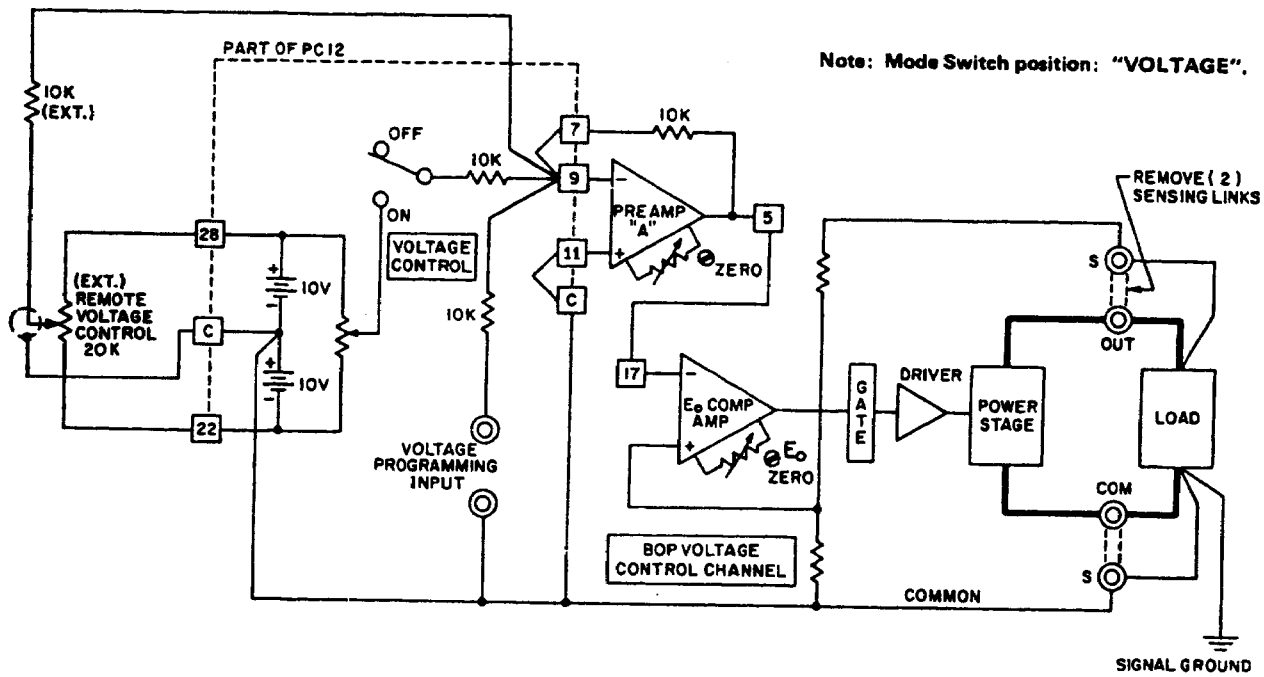

FIG. 3-4 REMOTE POTENTIOMETER CONTROL OF THE BOP D-C OUTPUT VOLTAGE
- 3-11 REMOTE D-C OUTPUT VOLTAGE CONTROL BY RESISTANCE.** As seen in FIG. 3-4, and as described in a previous paragraph (Paragraph 3-6) the BOP d-c output potential can be controlled within its specified range by means of the VOLTAGE CONTROL, with the VOLTAGE CONTROL SWITCH in the ON position. PREAMP "A" with the built-in feedback and input resistors, has a gain of one and the fixed gain of all BOP models is designed so that a d-c input signal of zero to ( $\pm$ )10 volt will control the BOP output through its specified range. In the local (front panel) control mode, the d-c control potential is applied via the VOLTAGE CONTROL. In the remote control mode, a similar control circuit, located external to the BOP is substituted for the internal control elements.
3-12 As shown in FIG. 3-4, this control method can readily be performed remotely, by setting the VOLTAGE CONTROL SWITCH to the OFF position and connecting an external REMOTE VOLTAGE CONTROL as indicated in FIG. 3-4.